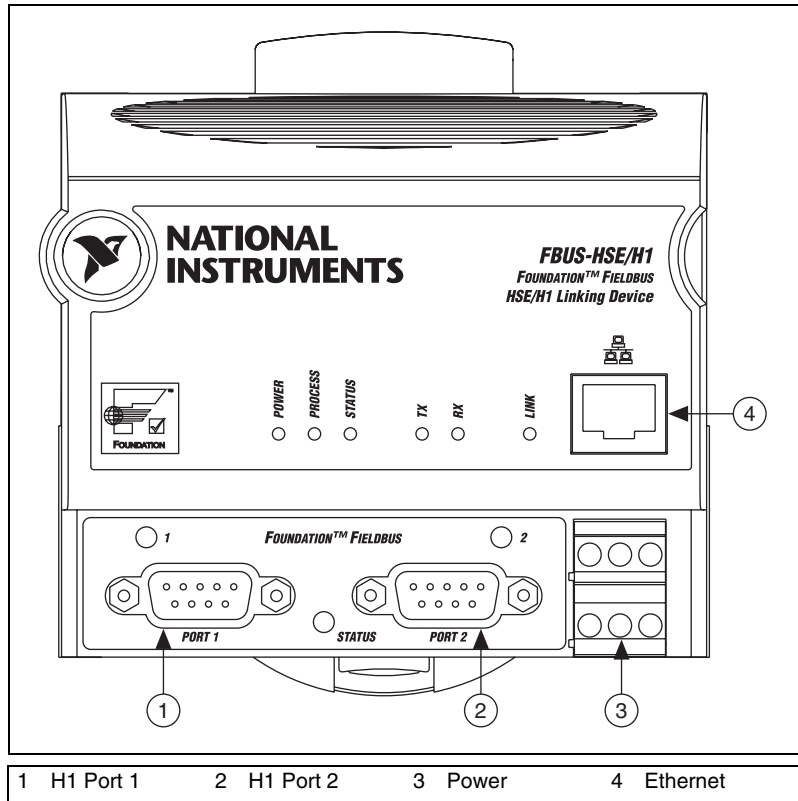

Figure 5. Connectors on the FBUS-HSE/H1 LD
5. Figure 5 shows the power, H1, and Ethernet connectors on the FBUS-HSE/H1 LD.